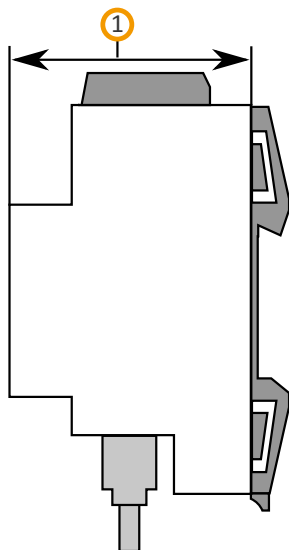

Figure 8: Device depth
Pay attention to the device depth (see figure 8, item 1): DRA Plus, 74 mm.